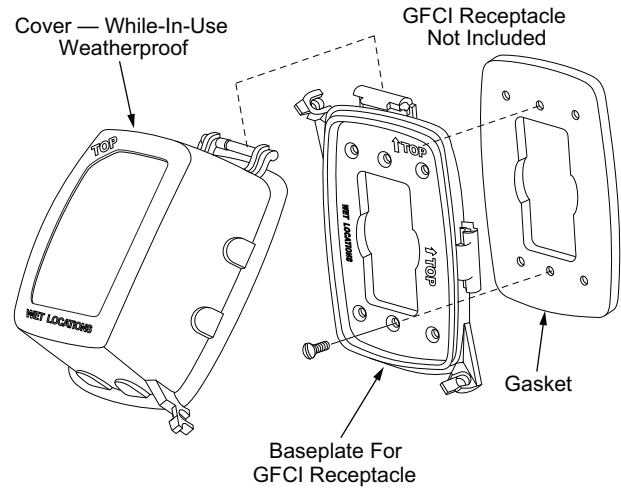

Fig. 33 — Weatherproof Cover Installation
4. Mount the weatherproof cover to the backing plate as shown in Fig. 33.